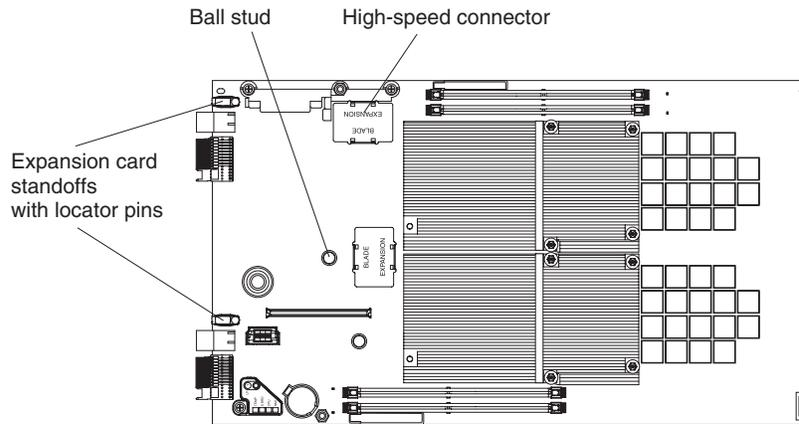

Figure 9. Expansion card connector, locator pins, and ball stud
3. Remove the connector cover or any optional card from the high-speed connector. Figure 9 on page 34 shows the location of the high-speed connector.